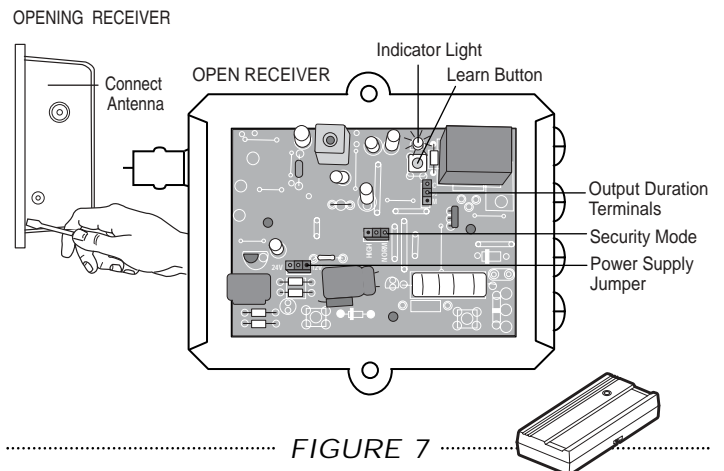

FIGURE 7
1. Pry open the front panel of receiver case with a coin or a screwdriver. Re-connect power to opener. *Figure 7*.